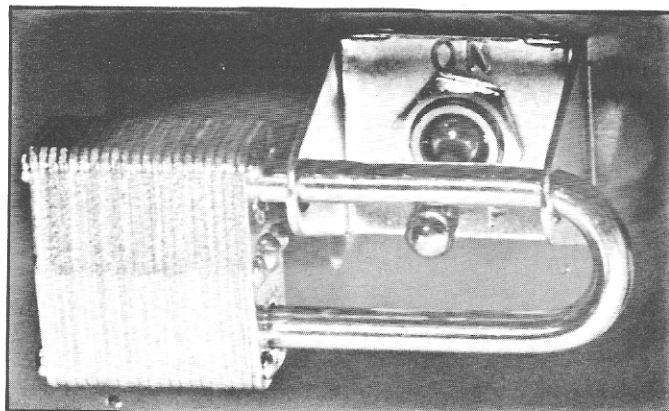

Fig. 15
5. **IMPORTANT:** We suggest that when the saw is not in use, the switch be locked in the "OFF" position using a padlock, as shown in Fig. 15. Catalog No. 49-031 Padlock is available as an accessory.